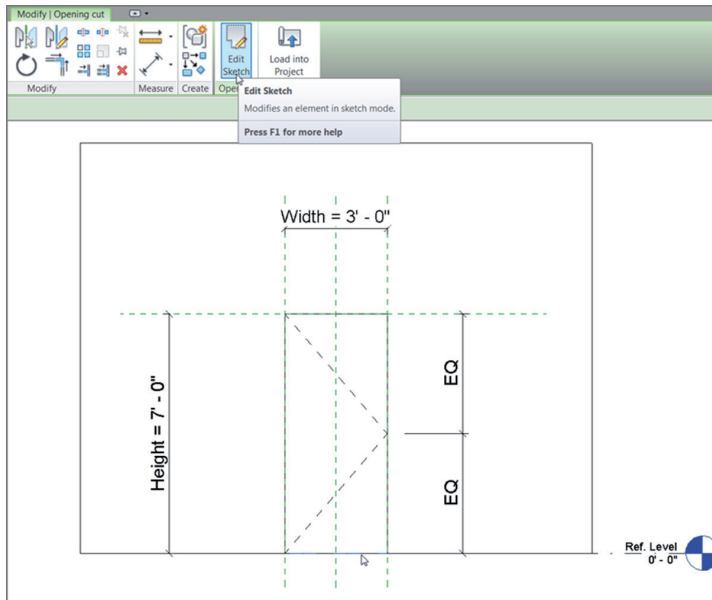

FIGURE BC2.14: Editing the door opening
5. In this view, you see a wall and an opening. Select the bottom of the opening, as shown in Figure BC2.14.
7. Click the Edit Sketch button on the Opening panel (see Figure BC2.14).